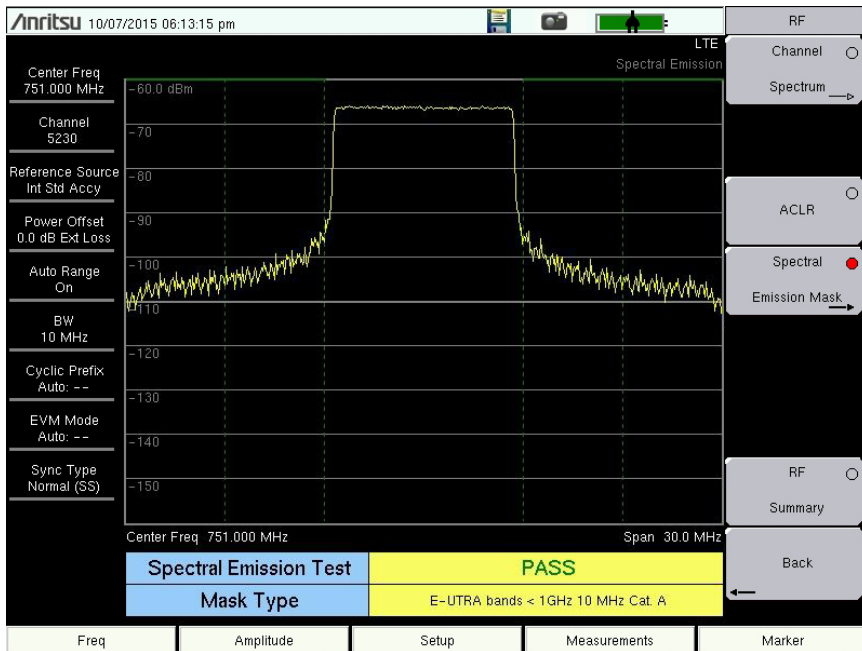

Figure 5-4. Spectral Emission Mask
3. Press the Spectral Emission Mask submenu key to activate the Spectral Emission measurement and display (Figure 5-4).